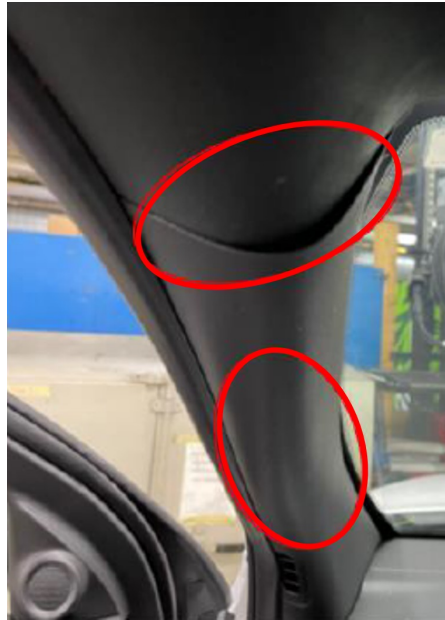

Fig. 1
1. Visually inspect both A-Pillar trims to ensure they are fully seated and/or not warped (Fig. 1) .
2. Were one or both A-Pillar trims not fully seated and/or warped (Fig. 1) ?